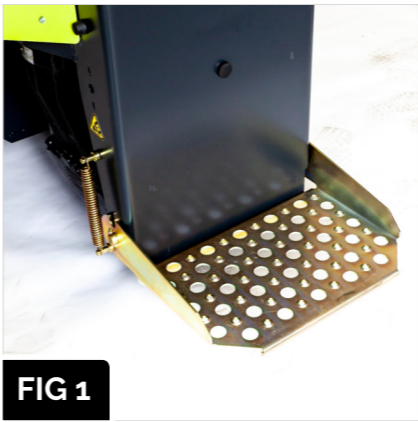

FIG 1
- ▶ Check the condition and functions of the operator platform and safety rails in both raised and down position (fig 1 and fig 2).